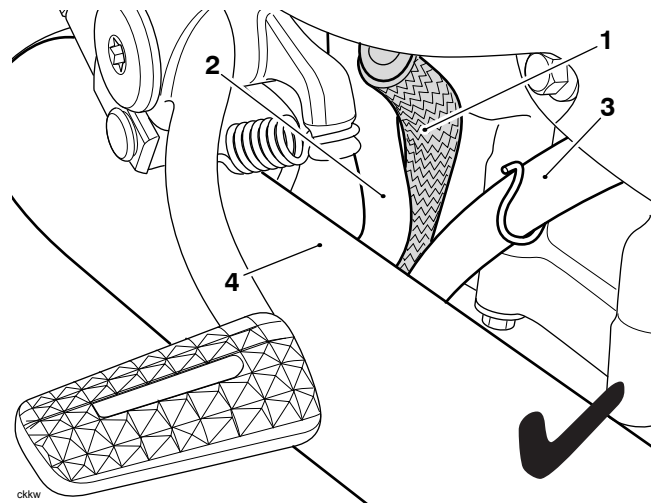

Figure 1: Coolant Hose Correctly Routed
- **Figure 1 below shows a correctly routed coolant expansion hose. The hose is routed between the brake line and the engine casing, and contact with the exhaust header pipe is not possible.**
- If the coolant hose is not in contact with the header pipe and is routed correctly behind the brake line, as shown in **Figure 1 below**, no repair is necessary. Submit a warranty claim for **Check Only** using repair code 995630.